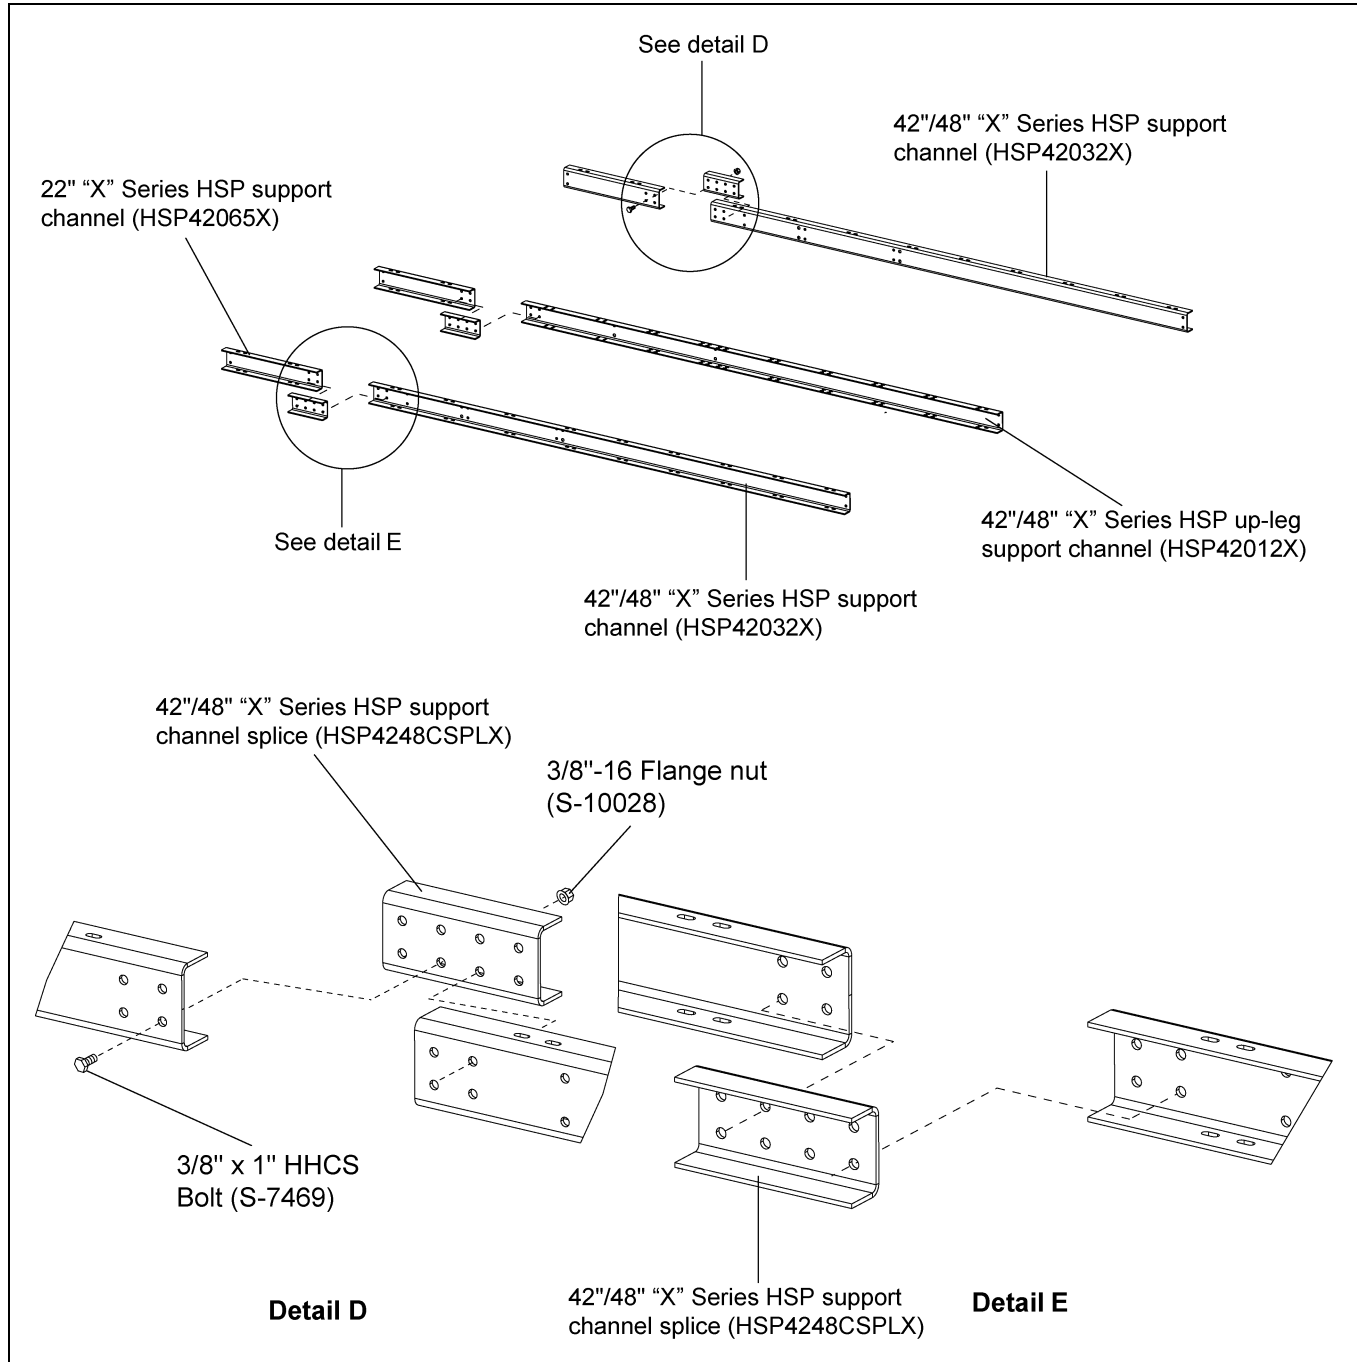

Figure 8A
2. Assemble the support channels (HSP42012X, HSP42032X and HSP42065X) together with the support channel splice plate (HSP4248CSPLX). Fasten together using eight (8) 3/8" x 1" HHCS bolts (S-7469) and 3/8" flange nuts (S-10028). (See Figure 8A.)